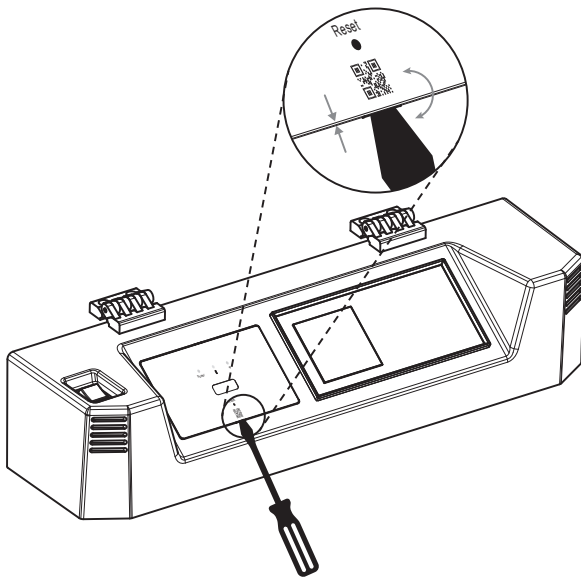

Fig. 12: Wi-Fi Module 21 Removal
2. Push the Wi-Fi Module in place, paying attention to the orientation. See Figure 12.